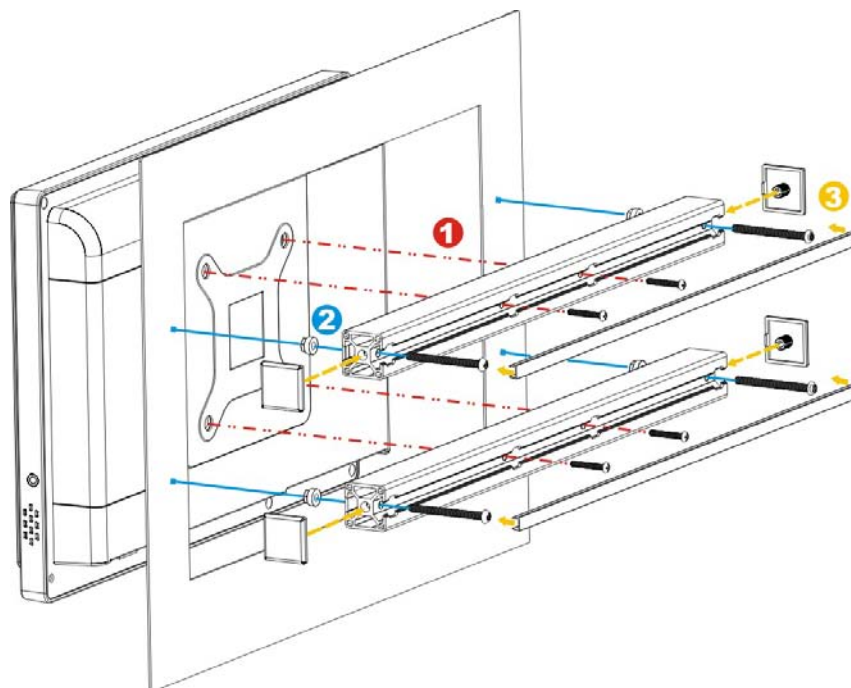

Figure 4-20: Tighten the Panel Mounting Clamp Screws
- Step 5:** Secure the two panel mounting brackets to the rear of the panel PC by inserting the four retention screws into the VESA mounting holes (**Figure 4-20 ①**).
- Step 6:** Insert the panel mounting clamps into the holes of the panel mounting brackets (**Figure 4-20 ②**). There are a total of 4 panel mounting clamps for AFL2-W21A/AB-H61.
- Step 8:** Install the covers into the panel mounting bracket. Each mounting bracket includes two side covers and one top cover (**Figure 4-20 ③**).